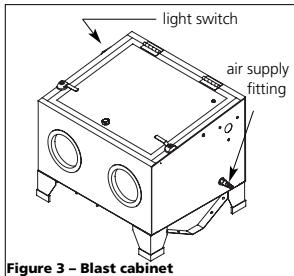

Figure 3 – Blast cabinet
2. Connect air supply (max. 125 psi) to the fitting on the side of the cabinet (Figure 3).
5. Plug the other end of the 12V power supply into the light switch on the cabinet (Figure 3).